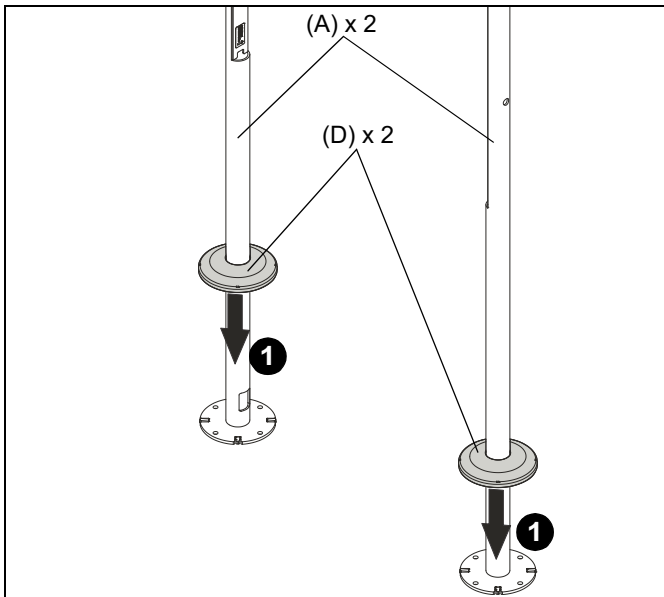

Figure 1
- Slide two post covers (D) onto two floor posts (A). (See Figure 1)